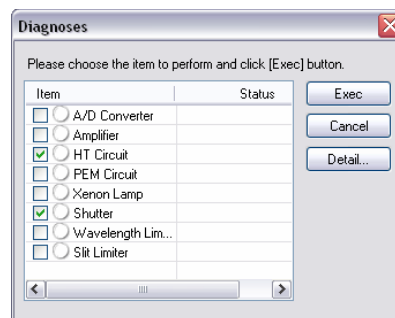

Figure. 2.33 [Diagnosis] dialog box
- (1) Put checkmarks next to the items to be diagnosed and click the <Exec> button (see Fig. 2.33)